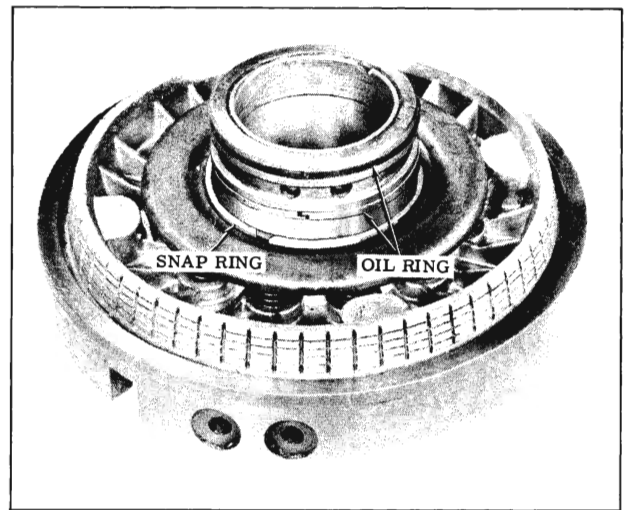

Fig. 3-254 Removing Case Support Oil Rings
- 1. Remove two lock type oil rings from case support. (Fig. 3-254)